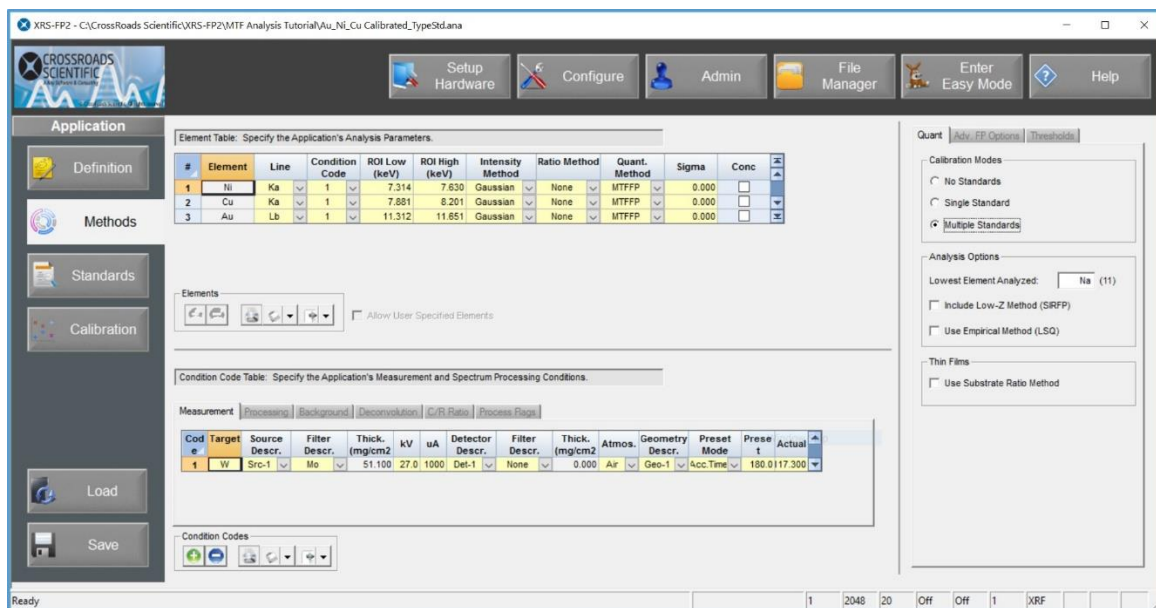

Figure 11. Application Workflow – Methods. Select the radio button for multiple standards.
2. Then select the **Home** button followed by the **Application** button. Then click on the **Methods** button. In the R-hand panel select the radio button for “Multiple Standards” under the Calibration Modes section of the “Quant” tab. See Figure 11 below.